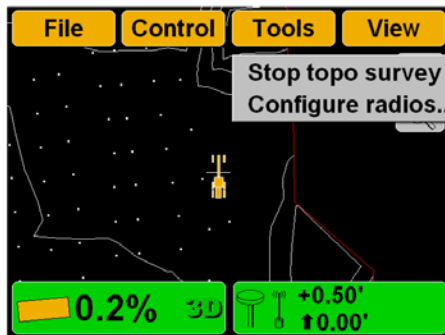

Figure 10-37. Stop Topo Survey
5. To stop topo measurements, press **Topcon Logo ▶ Stop topo survey** (Figure 10-37). Otherwise, 3DMC will continue to log measurements.